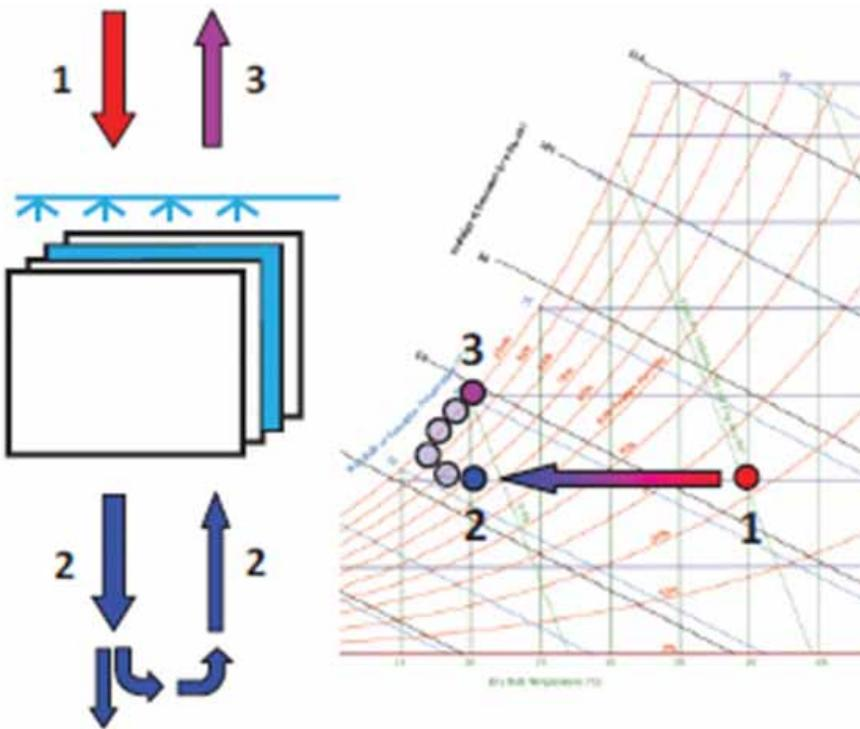

Figure 3: Schematics and psychrometric process of R-IEC
case, because the secondary air is already cooled, the corresponding WB temperature is sensible lower than the WB temperature of regular (outside) secondary air and the limit at which the primary air can be cooled became considerably lower. As shown in Figure 3, the warm primary air (1) is flowing inside the dry channels and transfers heat through the heat surface to the wet channels. At its outlet, the primary air (2) will have a lower temperature than at inlet. A part of the outlet primary air is used as secondary air (much cooler than that of conventional IEC) being introduced in the wet channels. The working process of the primary air (1-2) is realized at constant moisture content and the final dry bulb temperature of the primary air is considerable lower than in the case of conventional IEC and below the WB temperature of the primary air at inlet. At limit, the cooling process of the primary air could continue until reaching the WB temperature of the secondary air at the inlet. This type of equipment is also named sub wet bulb IEC. The main advantage of the R-IEC is that primary air is cooled at constant moisture content below the WB temperature of the primary air. The main disadvantage of the R-IEC is that the flow rate of the primary air is lower than in the case of basic IEC.